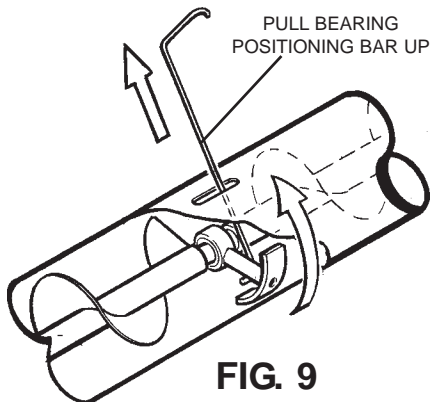

FIG. 9
B. Remove the positioning bar and insert the single bent end into slot. Hook the bearing hanger stem and, by pulling upward, rotate it completely upright. See Fig. 9.